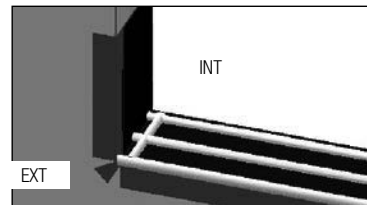

FIG. 11
- Apply a 1/4" continuous bead of silicone 1/2" from each side of the rough opening. The bead will run the entire depth of the jamb starting at the face of the wall. (Fig. 11)